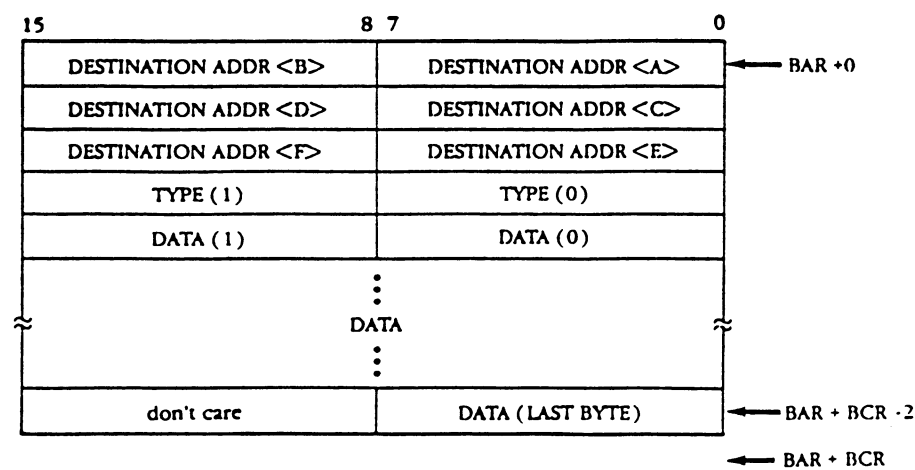

Figure 3-12. Transmit Data Format
The required data format for frame transmission is shown in Figure 3-12 under the Load Transmit Data and Send (51) command.
See Figures 3-12 and 3-12a.